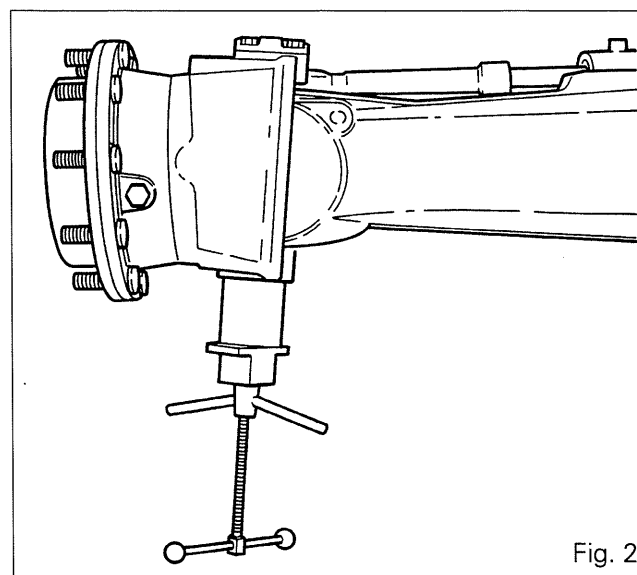

Fig. 2
5. Remove bolts (1), the cover (15) and cup (14). Extract the swivel pin (11) (Fig. 2) using extractor MF451.B and end fitting MF451.B3 (§M).
6. Remove bolts (1), the cover (2), shims (3) and cup (4). Extract swivel pin (7) as described above for the lower pin (Fig. 2).